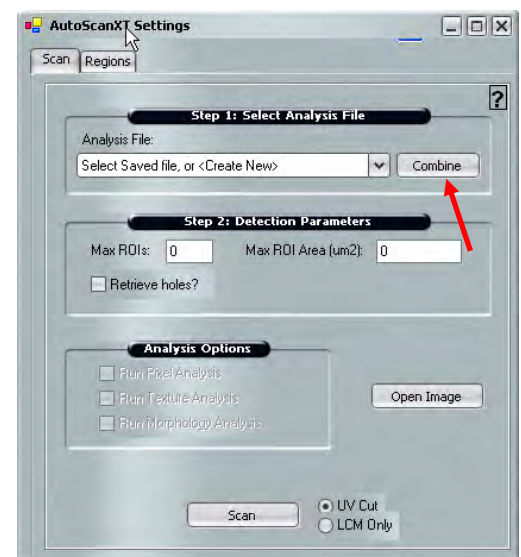

Figure 18. Combining Analysis Files.
4. In the “AutoScanXT Settings” window, click “Combine” (Figure 18).